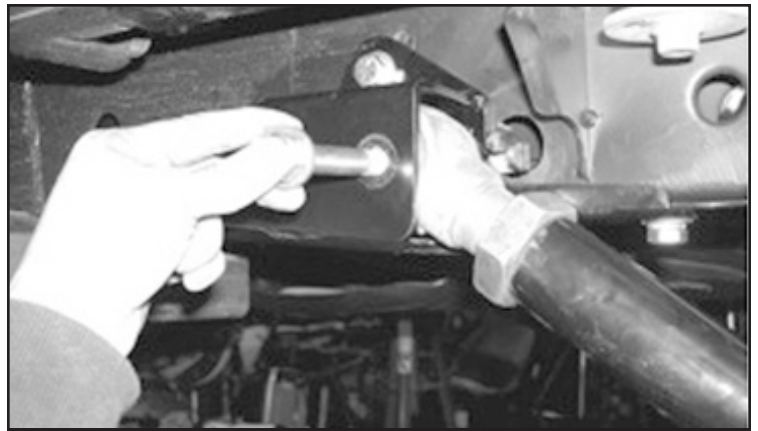

FIGURE 14 - STEP 13
13. Remove the 9/16" bolt from the frame pocket. Install the FT50518BK (lower link) and FT50415 (1" misalignments) with the 9/16" bolt at the new frame mount and factory bolt at the axle mount. **NOTE: Install a FT50509 rubber twist washer on the axle side and inner side of the bearing.** Torque the 9/16" hardware to 184 ft. lbs. and the factory hardware to 160 ft-lbs. **SEE FIGURE 14**